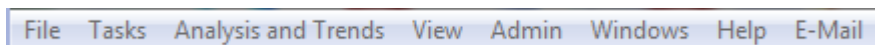

Figure 9: Menu options
- 1) Click on the option [Add] from the Users Management window menu (Fig. 9); the window to enter the new user data will be displayed